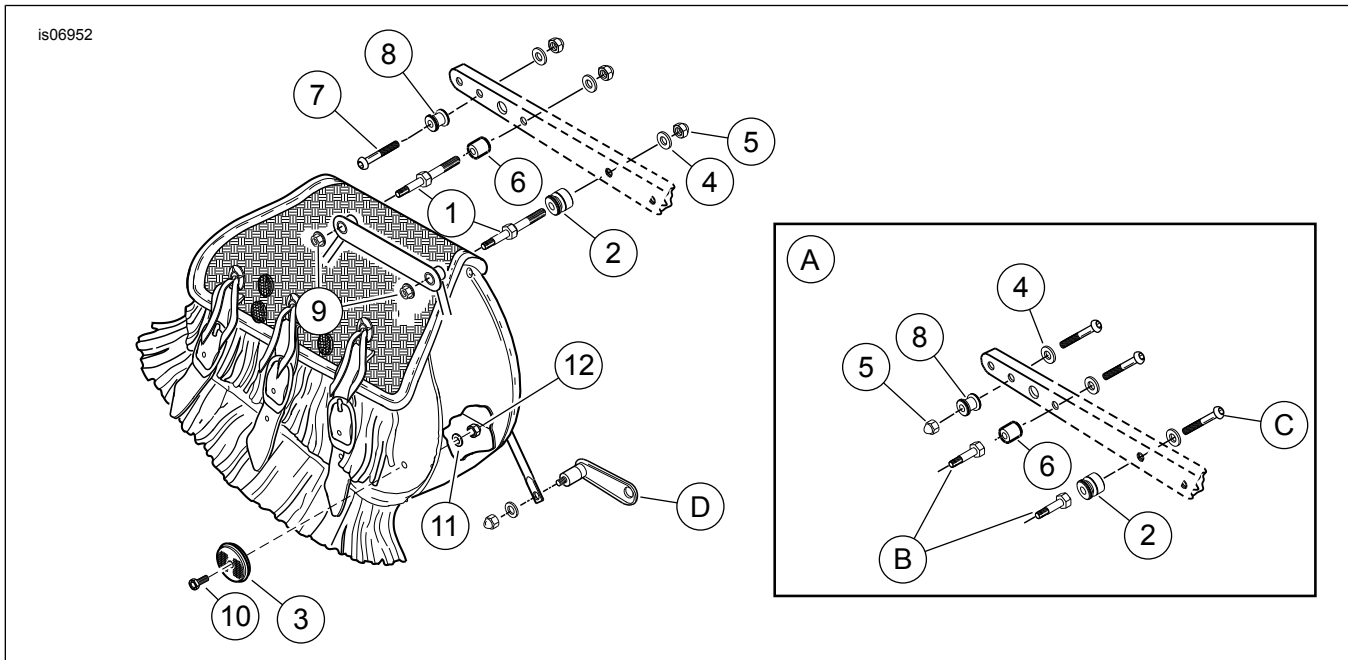

Figure 1. Service Parts: FLSTC and FLSTS Docking Hardware with Saddlebag Supports
See Figure 1 and Table 1.
1. See Figure 1. Remove each saddlebag by removing the acorn nut and washer on the lower support and the two flange locknuts inside the bag. Discard the flange locknuts but retain the acorn nut and washer.
1. See Figure 1. Slip saddlebag mount onto studs (1) and install flanged locknuts (9).